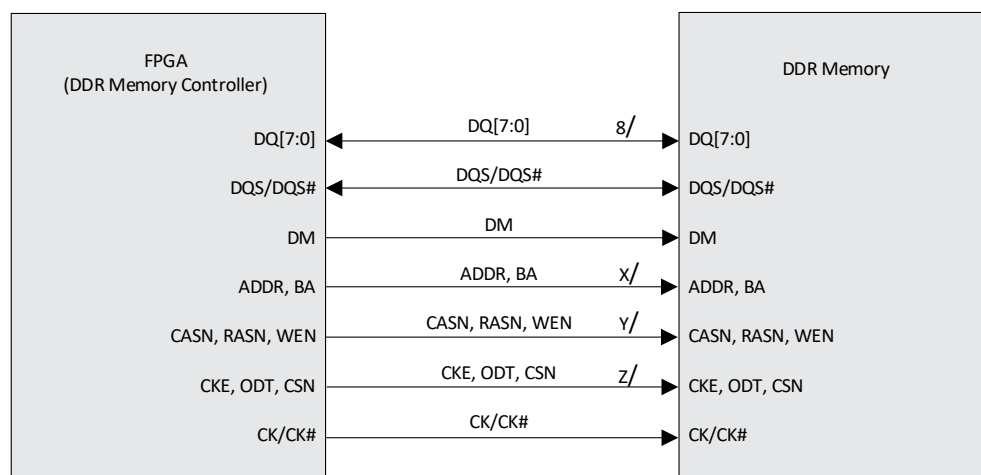
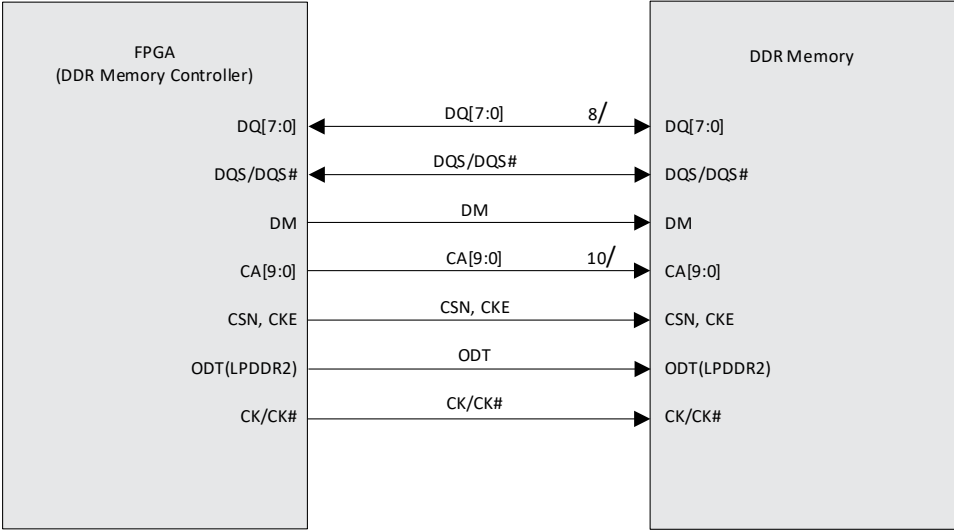
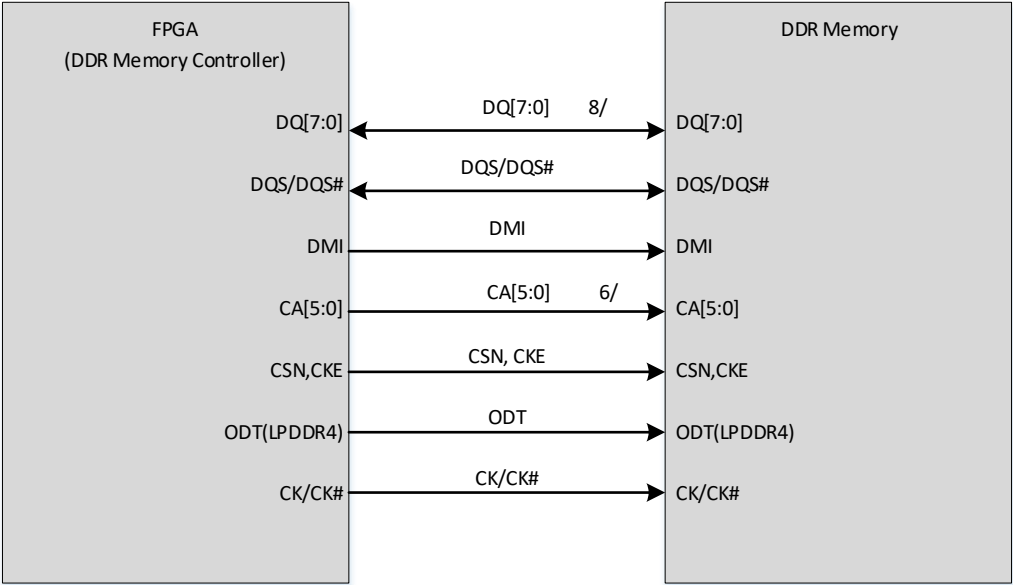

Figure 6.1. Typical DDR3/DDR3L Memory Interface
Figure 6.2. Typical LPDDR2 Memory Interface
Figure 6.3. Typical LPDDR4 Memory Interface
Figure 6.1, Figure 6.2, and Figure 6.3 show typical DDR memory signals. DDR3, DDR3L, LPDDR2, and LPDDR4 memory interfaces are typically implemented with eight DQ data bits per DQS. Therefore, a 16-bit DDR memory interface uses two DQS signals, and each DQS is associated with eight DQ bits, respectively. Both the DQ and DQS are bi-directional ports and are used to read and write to the memory.
DDR memories also require a Data Mask (DM) signal to mask data bits during write cycles. For LPDDR4, Data Mask Inversion (DMI) signal mask data bits during write cycles or inverts data bit during write cycles depending on Mode register setting. Note that the ratio of DQS to data bits is independent of the overall width of the memory. Figure 6.1, Figure 6.2, and Figure 6.3 show typical 8-bit interface that has eight associated DQ data bits per DQS strobe signal.